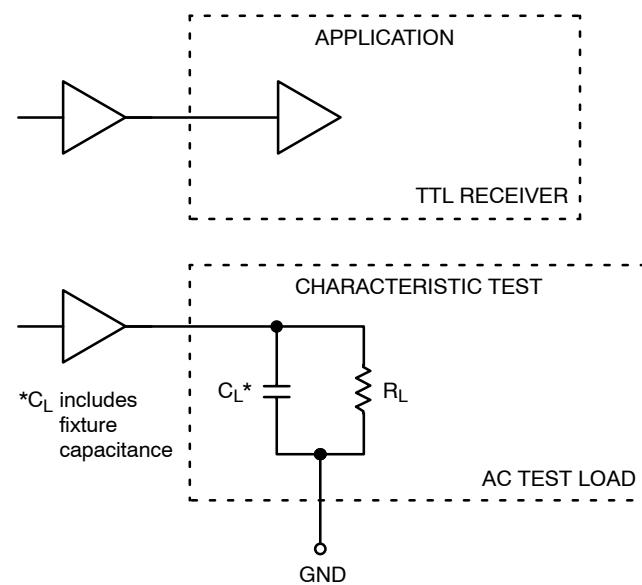

Figure 3. TTL Output Loading Used For Device Evaluation
- Measured with a 750 mV 50% duty-cycle clock source. $R_L = 500 \Omega$ to GND and $C_L = 20 \text{ pF}$ to GND. Refer to Figure 3.